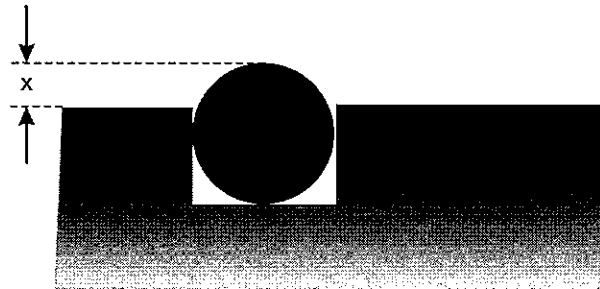

Fig. 7-3
- 5 The ring must protrude above the groove (relative to the seal surface) at a constant distance around the entire circumference. See Fig. 7-3, 78. Depending on the thickness of the ring, the values are as follows: